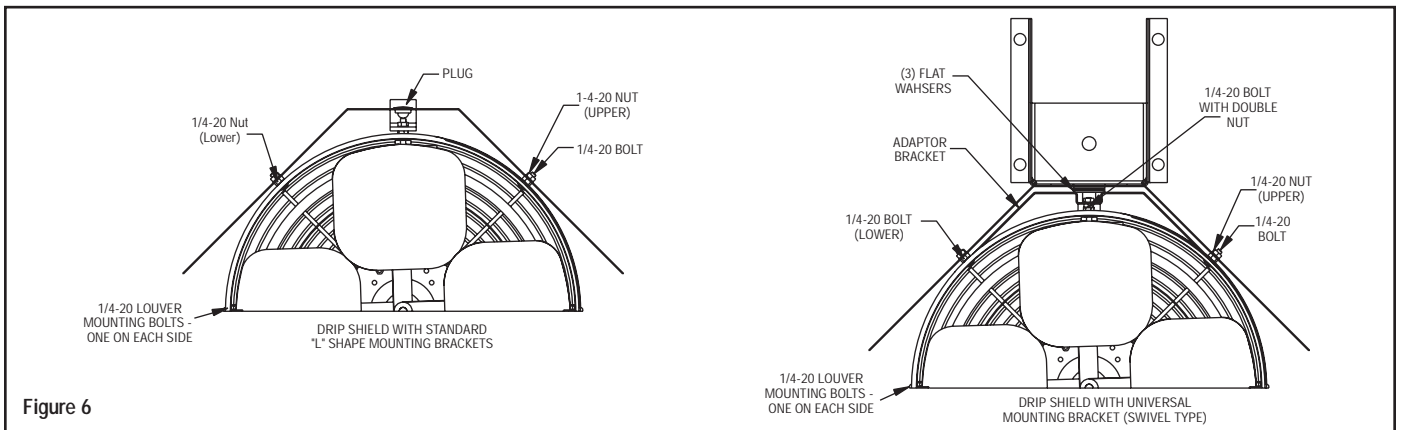

Figure 6
- A. Line up the four mounting holes on the shield with the four holes on the upper half of the heater case and fasten in place with the four stainless steel bolts, nuts and washers supplied with the kit. See figure 6.